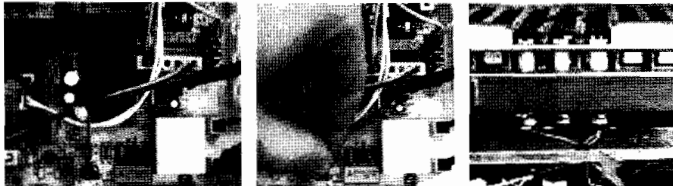

Figure 25
- ☐ Pull off the ignition and flame electrode leads from the PCB and remove the wires with grommet from the combustion chamber base. (Figure 25)